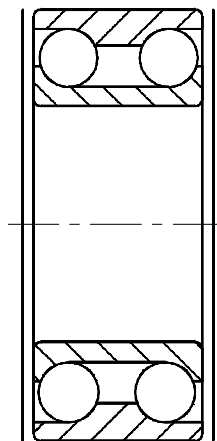

Figure 16-8 Modifying the xref drawing BEARING
3. Load the drawing BEARING and make the changes shown in Figure 16-8 (draw polylines on the sides). Now, save the drawing with the file name BEARING.